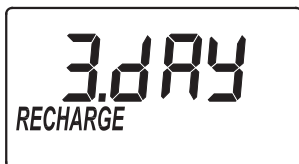

FIG. 14
1. If you completed the previous step, the word "RECHARGE" should show in the display (See Figure 14). Otherwise, press the SELECT button several times until it does.